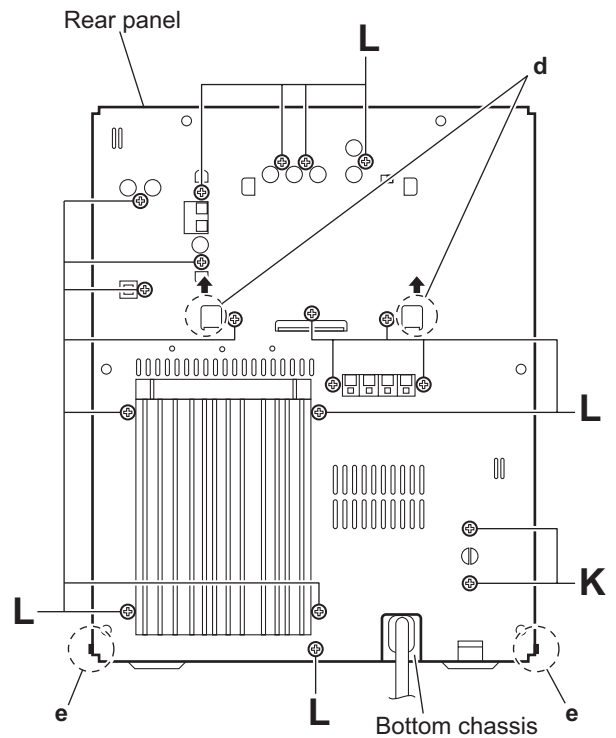

Fig.11
- (3) Remove the two screws **K** and seventeen screws **L** attaching the rear panel. (See Fig.11.)
- (4) From the both sides of the main body, release the sections **d** of the center chassis in the direction of the arrow and release the joints **e** attaching the rear panel to the bottom chassis. (See Fig. 11.)